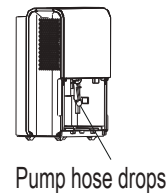
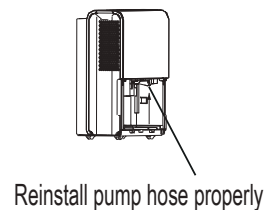

Fig 7
Fig 8
- If the pump hose drops when you remove the bucket (see Fig.7), you must reinstall the pump hose properly to the unit before replace the bucket into the unit (see Fig.8).